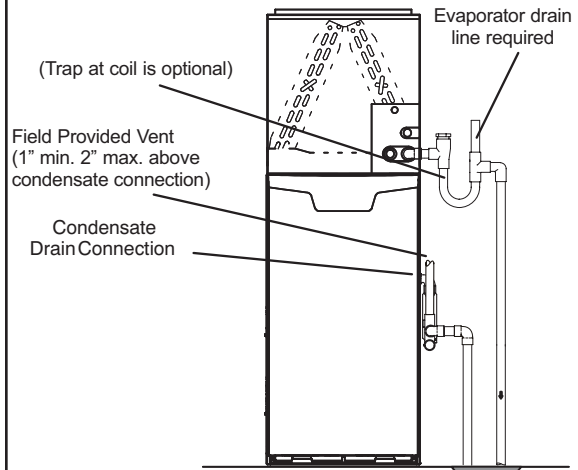
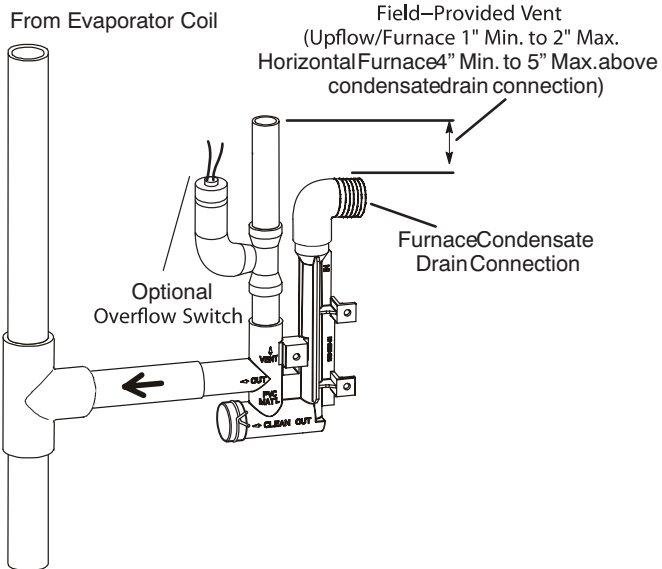
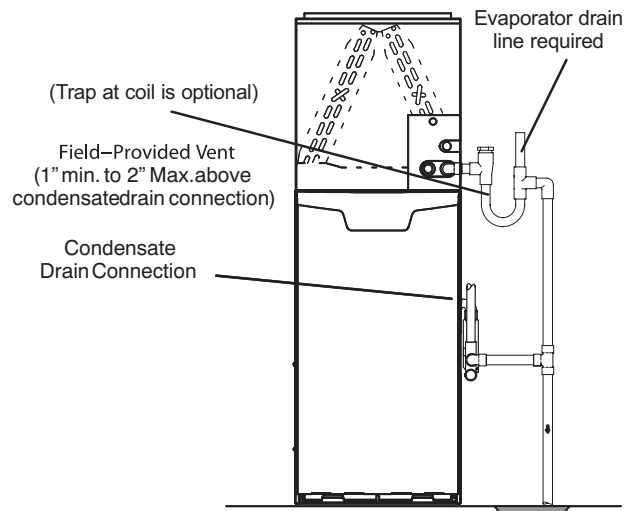
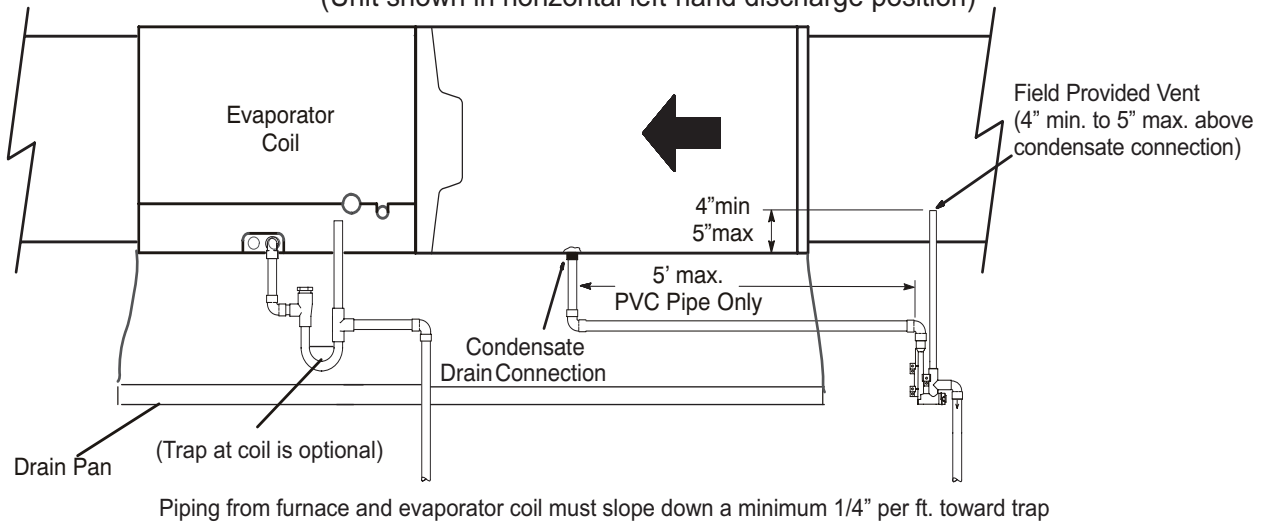

FIGURE 39
FIGURE 38
FIGURE 40
FIGURE 41
- 5 - FIGURE 39 and FIGURE 41 show the furnace and evaporator coil using a separate drain. If necessary the condensate line from the furnace and evaporator coil can drain together. See FIGURE 38, FIGURE 40 and FIGURE 42.
Upflow furnace (FIGURE 40) - In upflow furnace applications the field provided vent must be a minimum 1" to a maximum 2" length above the condensate drain outlet connection. Any length above 2" may result in a flooded heat exchanger if the combined primary drain line were to become restricted.
Horizontal furnace (FIGURE 41) - In horizontal furnace applications the field provided vent must be a minimum 4" to a maximum 5" length above the condensate drain outlet connection. Any length above 5" may result in a flooded heat exchanger if the combined primary drain line were to become restricted.